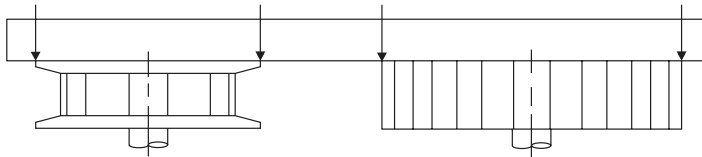

Figure 3
12) Position other drive components such that they are aligned with the idler bushing assembly. This may be accomplished by using a straightedge or length of piano wire or string contacting each component's face in two places as shown in Figure 3 below.